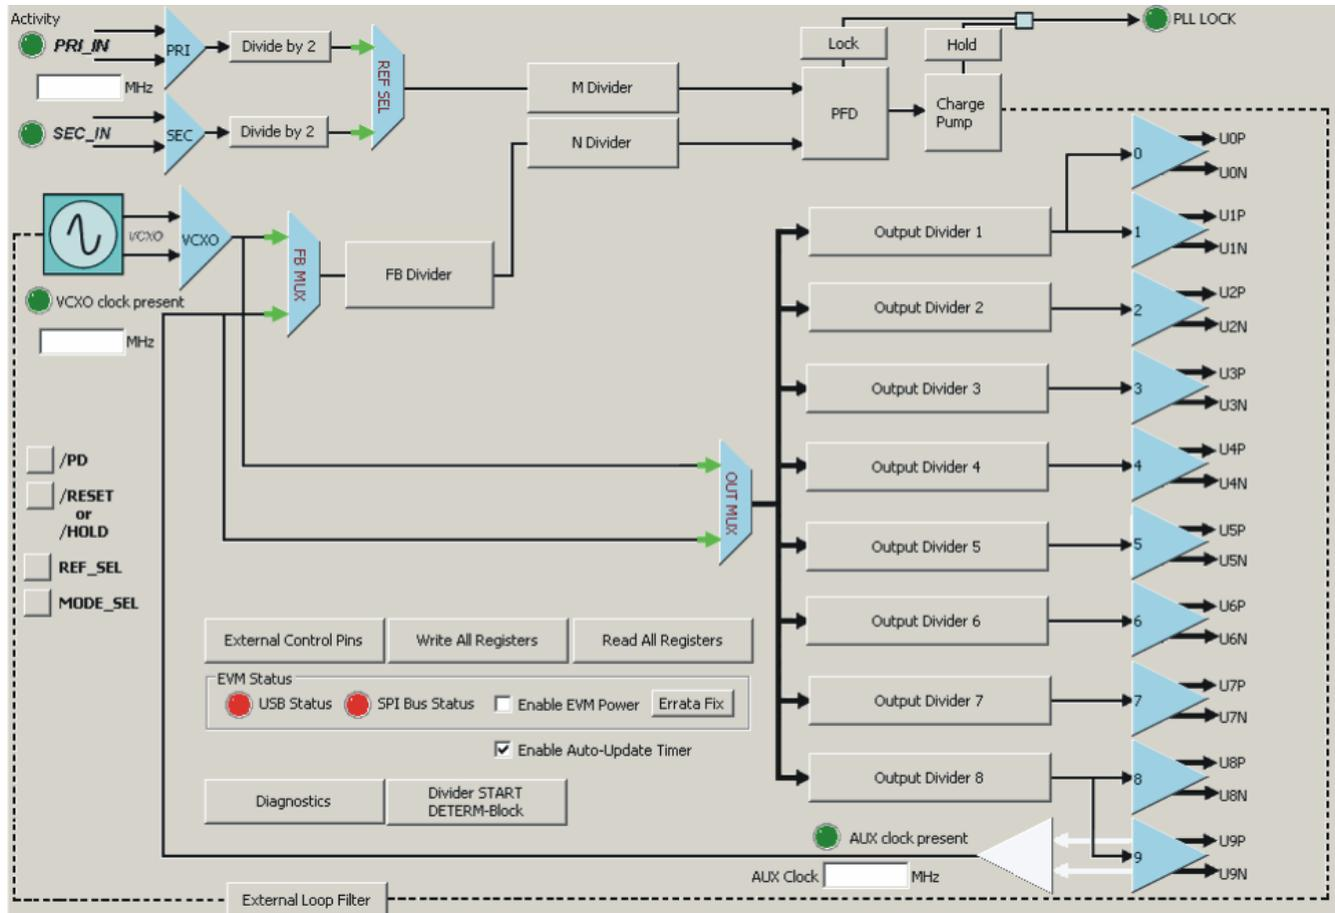

Figure 1. CDCE72010 Block Diagram
each output. The device operates in a typical 3.3V- environment, and has an onboard EEPROM that allows for saving default startup conditions. The built-in latches ensure that all outputs are synchronized on device power-up or when the PLL is reconfigured after toggling the Reset pin. The device is ensured to be functional up to 500 MHz. The CDCE72010 is characterized for operation from 3.0 V to 3.6 V and from -40C to +85°C. Figure 1 shows a block diagram of the CDCE72010.
As shown in Figure 1, the CDCE72010 has internal dividers, a phase frequency detector, charge pump, and LVPECL/LVDS/LVCMOS input and output buffers. Together with an external VCXO and loop filter, the device completes a PLL. Through the PLL operation, the VCXO input clock synchronizes with the reference clock input, and ultimately with all clock outputs. All outputs are completely synchronized in terms of phase and frequency with the reference clock input.
Step 1. From Figure 1, it can be inferred that the relationship between the output frequency and the input frequency is described by these equations: